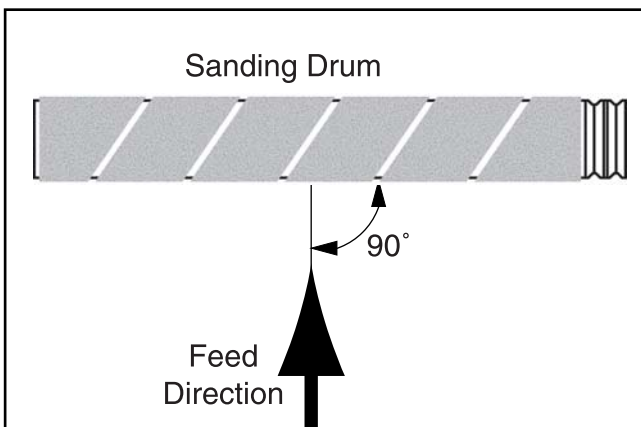

Figure 5. Feed direction perpendicular to drum.
For the Model G1066/G1066Z/G1079 Drum Sander to function properly, the sanding drums must be aligned in two directions: (1) perpendicular to feed direction (**Figures 5 and 6**) and (2) parallel to the conveyor belt.